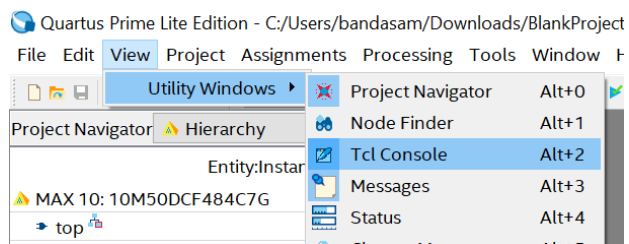

Figure 3: Utility Window dropdown
- ❑ Some windows may not be shown by default. To customize what windows are shown, click on the **View** tab and look under the **Utility Windows** drop down as seen in Figure 3.